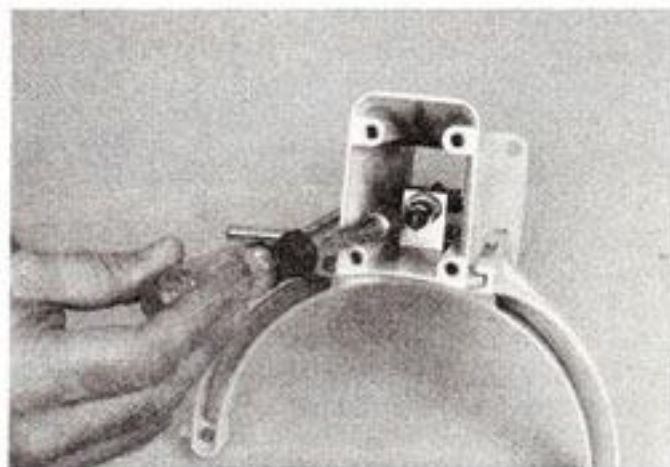

Fig. 94
- I. Slide the new bowl support assembly on the column (Fig. 90). Place the bowl lift bracket in place and screw in the two #10-24 x 1/2" flat head screws. These screws must be very tight. Check the castle nut so that the tension will be great enough to snap the rod into the arm and hold it there (Fig. 94).